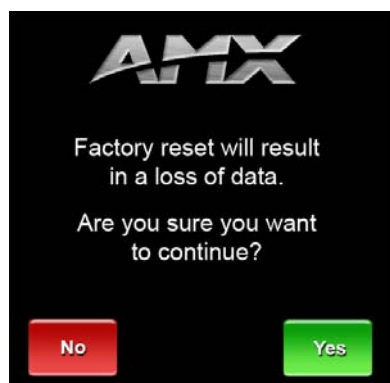

FIG. 54 Factory Reset confirmation page
2. The new confirmation page informs you that a panel reset to its original factory firmware may result in a loss of data (FIG. 54). Click **Yes** to confirm that you wish to continue the resetting process and click **No** to return to the splash page.